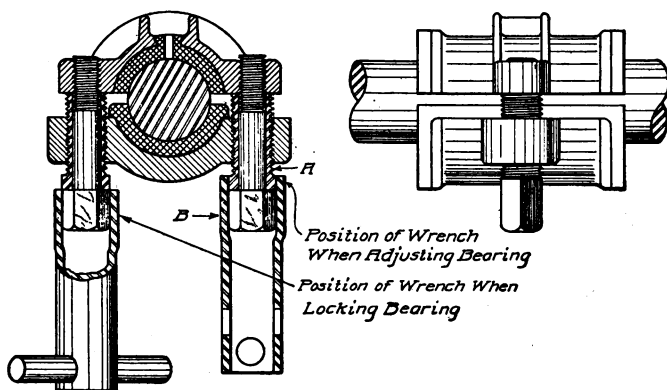

Fig. 64. Connecting Rod and Main Bearings Constructed without Shims
*Special Sleeve Replaces Shims.* In one motor (Reo), the shim is replaced by an ingenious arrangement of a threaded sleeve around the bearing bolts. This is shown in Fig. 64 in which the sleeves are marked *A* and the bolts *B*. It will be noted that the